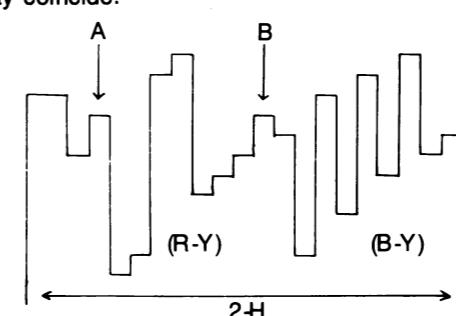

Figure 6. Pin 24 Waveform
4) Adjust SL506 so that the DC LEVEL of the parts A,B (figure 6) may coincide.